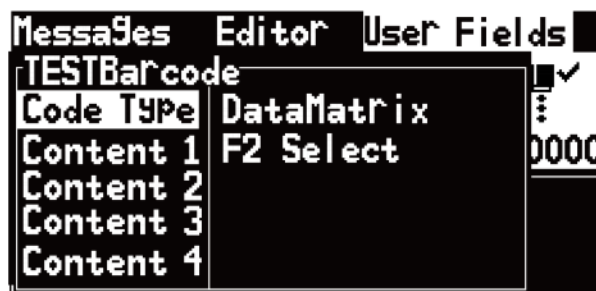

Figure 2-17. *Barcode* dialog box
3. Use the **Left arrow** key and **Right arrow** key to select **Barcode** as the descriptions, and press the **Enter** key to open **Barcode** dialog box (Figure 2-17).